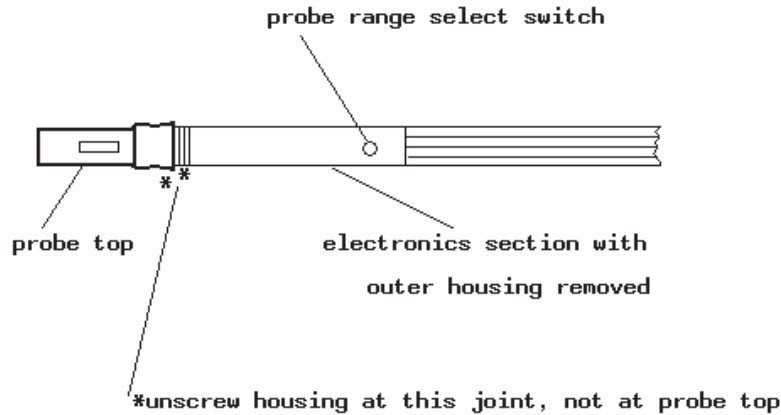

Figure 1 Probe Range Select Switch
Controls for the induction probe consist of a rotary switch located inside the probe. To manually set this range switch you will need to open the probe by unscrewing the housing at the joint just above where the black heat shrink ends at the probe top. Remove housing and locate the range select switch using Figure 1. Set the switch as per Table 2. To have the tool select two ranges automatically refer to Table 3. Note that when the automatic selection is desired the switch must be set to position 5, for the surface equipment to be able to switch ranges in the tool. The factory setting is position 5, for the range switch.
3. Set the range switch on the probe to the 100mS/m range. See Figure 1 for switch location and Table 2 for switch position.